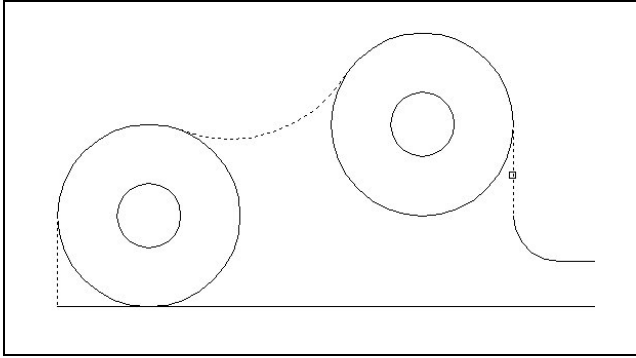
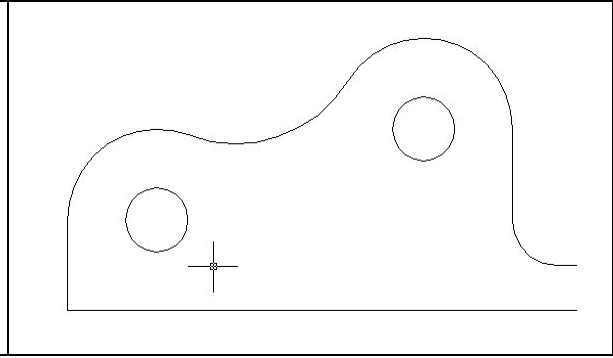

Figure 10.9 – Select Trimming Entities
Figure 10.10 – Trim Circles
By precision selection of entities in a drawing, the Trim tool can be utilized to modify basic circles into arcs. By selecting precise lines as cutting surfaces, entities that are overlapping each other will be ignored and less cutting will be require. Select the Trim tool on the Modify toolbar, and at the prompt “Select cutting edges” pick the three objects shown as dotted lines in Figure 10.9. Next to remove the circular segments press ENTER to continue with this two part command and “Select object to trim or shift-select to extend or [Project /Edge/Undo].” will appear on the command text line. Pick the portion of the circle that does not appear on the perimeter of the bracket, and the top view of the bracket will appear as shown in Figure 10.10.
**\* World Class CAD Challenge \* - Create a New file using the Metric template, and draw the 10 entities shown in Figure 10.10 in 50 seconds. Continue this drill four times, each time completing the drawing under 50 seconds to maintain your World Class ranking.**